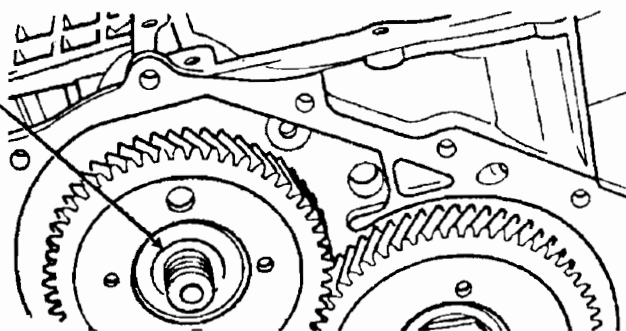

Figure 58
**Change:** In 1991, Chrysler changed the pitch on the transfer gears from 27.5 degrees to 32 degrees in order to reduce a whining concern. See figure 57. An easy way to identify the two different gear sets is that the previous 27.5 degree gear has a step machined into the face of the gear. The 32 degree gear has a flat face instead of a stepped face, see figure 58. These gears will not interchange individually as an improper mesh will occur. With the 32 degree gear now having a flat face, the length of the splines on the output shaft on the rear carrier changed from 1" in length to 1 1/8" in length as shown in figure 59.